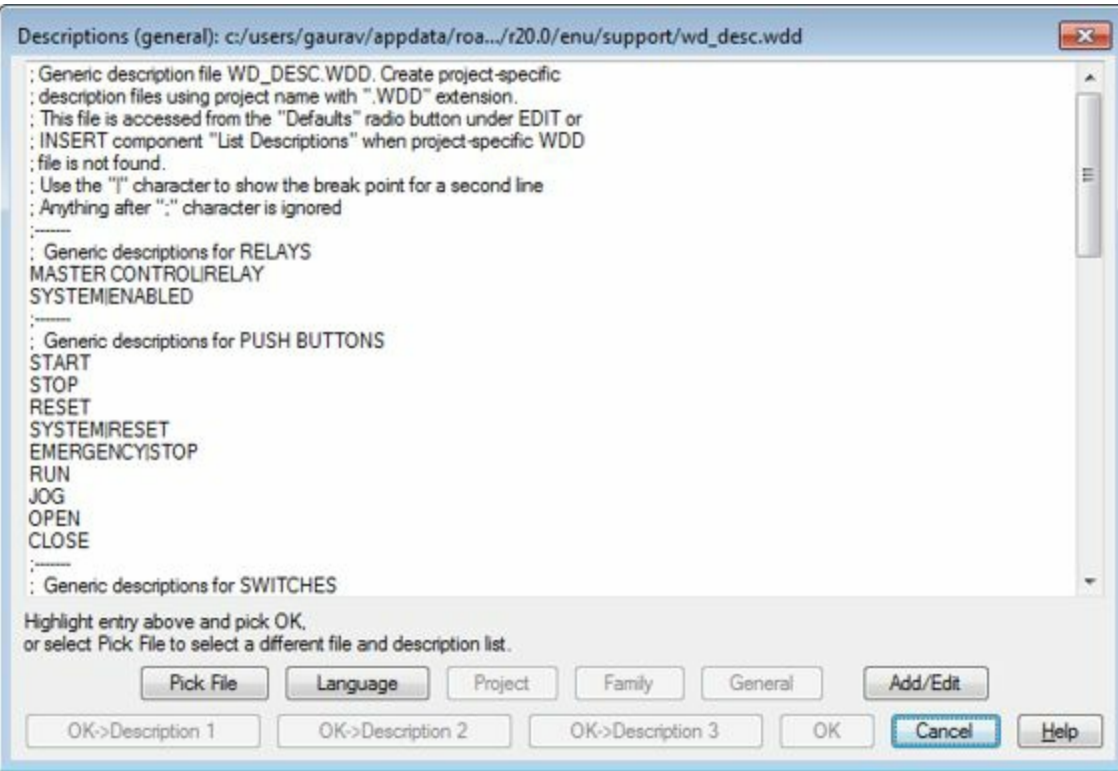

Figure-12. Descriptions dialog box
- You can also select the description from the default description list. To do so, click on the **Defaults** button in this area. The **Descriptions** dialog box will be displayed; refer to Figure-12.